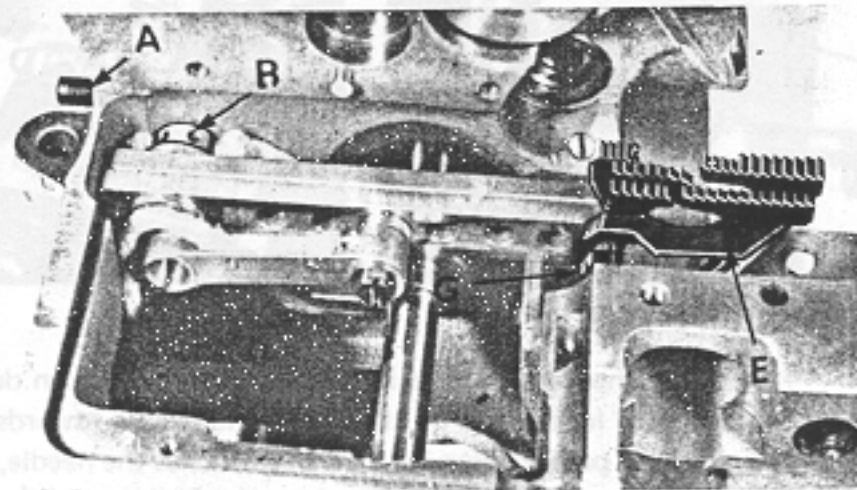

fig.13
- Fit the front differential feed dog E with screw G but do not lock (fig. 13).